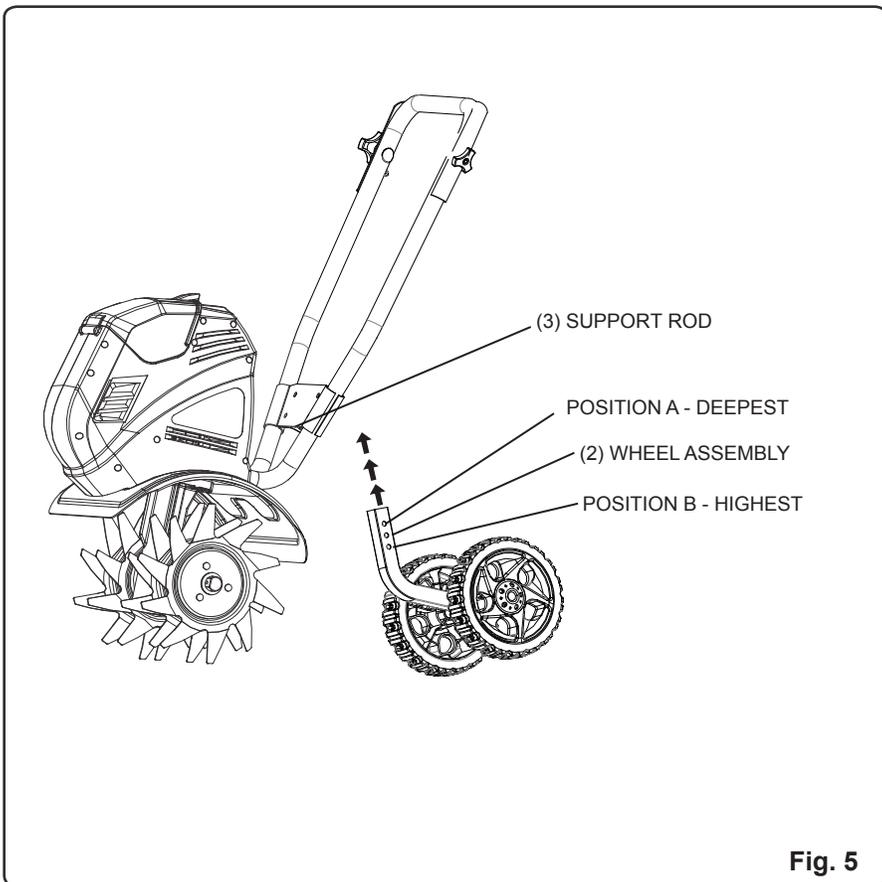

Fig. 5
ASSEMBLING THE WHEELS (See Figure. 5)
2. Place cultivator in a stable position as shown in Fig. 5
3. Insert the wheel assembly (2) into the support rod (3). (Fig. 5)
4. Pull out on spring-loaded knob (4) and slide wheel shaft up or down depending on the depth trying to be achieved.